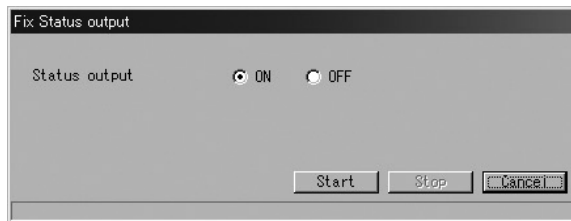

Fig.88
- ① Click on "Diag/Service (T)" at top-level menu of the screen, select "Fix Status output" from the "Loop test" drop-down list, and click on again.
- ② A message box like the one shown in Fig. 88 appears. Select either simulated output status "ON" or "OFF", and click on "Start" button.